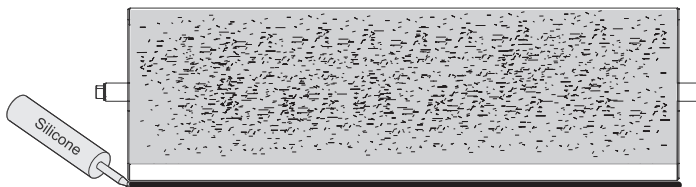

Figure 18
1. Pour the provided sand over the entire burner, filling the burner pan. The sand (rockwool mix) should follow the slope of the burner pan, covering the burner completely. See Figure 18.